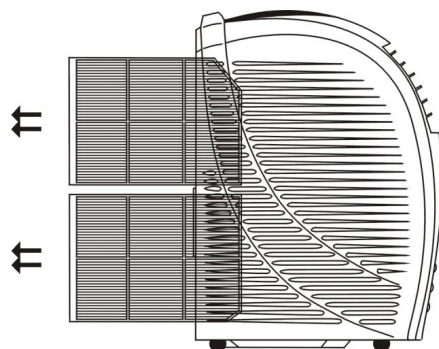

Fig. 14
1) Pull out the air filter as Fig.14.